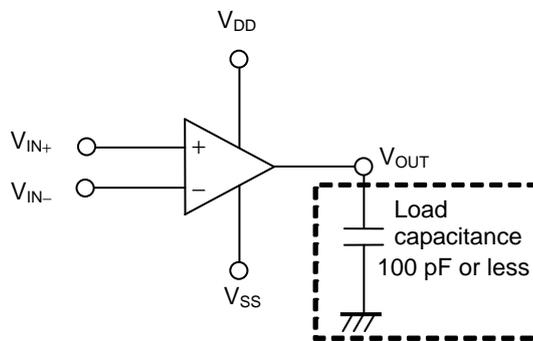
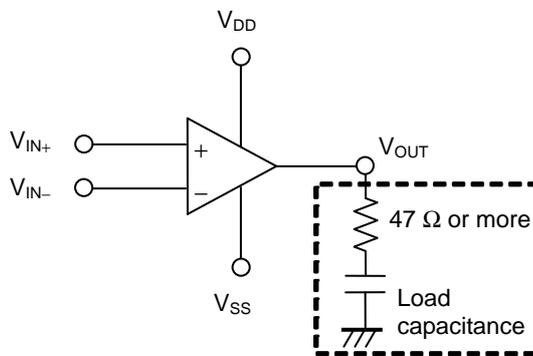

Figure 14
Figure 15
- This IC operates stably even directly connecting a load capacitance 100 pF or less to the output pin, as seen in **Figure 14**. When using a load capacitance 100 pF or larger, set a resistor 47 Ω or more, as seen in **Figure 15**. In case of connecting a filter for noise prevention, and using a load capacitance 100 pF or more, also set a resistor 47 Ω or more as seen in **Figure 16**.